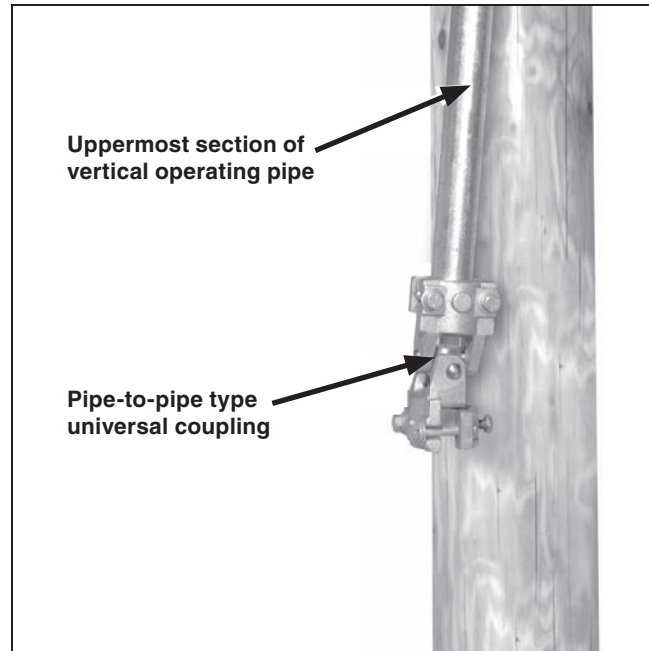

Figure 28. Attach the pipe-to-pipe type universal coupling to the lower end of the vertical operating pipe.
**STEP 25.** Attach a pipe-to-pipe type universal coupling to the lower end of the uppermost section of vertical operating pipe. See Figure 28. Back the piercing set screw out of the body of the pipe coupling before tightening the coupling clamp bolts.